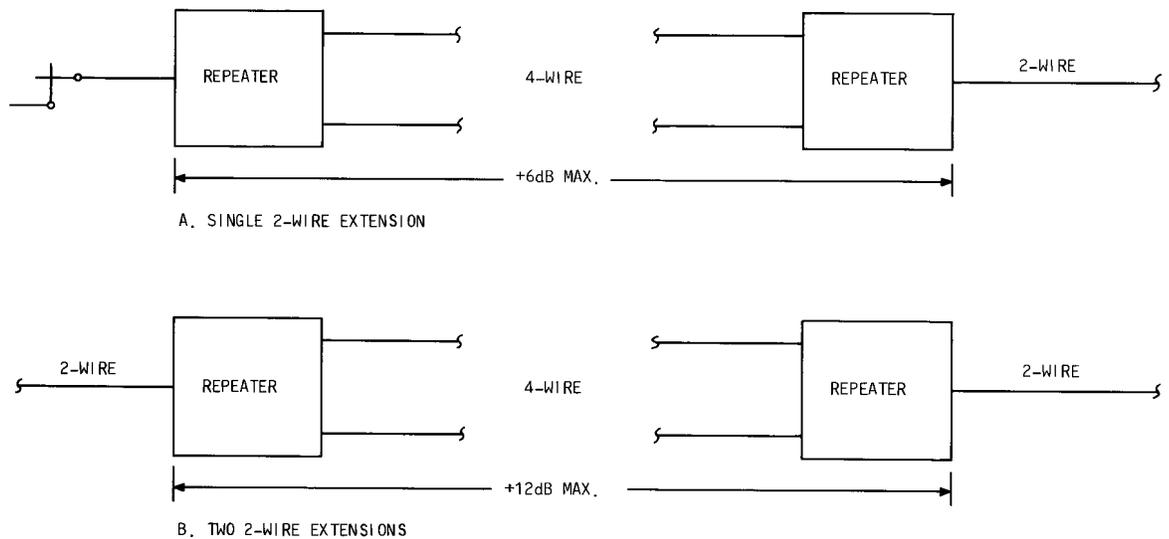

Fig. 14—Maximum Gain Limits on 4-Wire Circuits With 2-Wire Extensions
7.02 Figure 14 shows the two types of 4-wire circuits with 2-wire extensions with the maximum allowable gain limits between the end 2-wire points indicated. The 4-wire portion of each circuit is not limited solely to a metallic facility but may also include a carrier link. These maximum gains are limited by stability considerations.